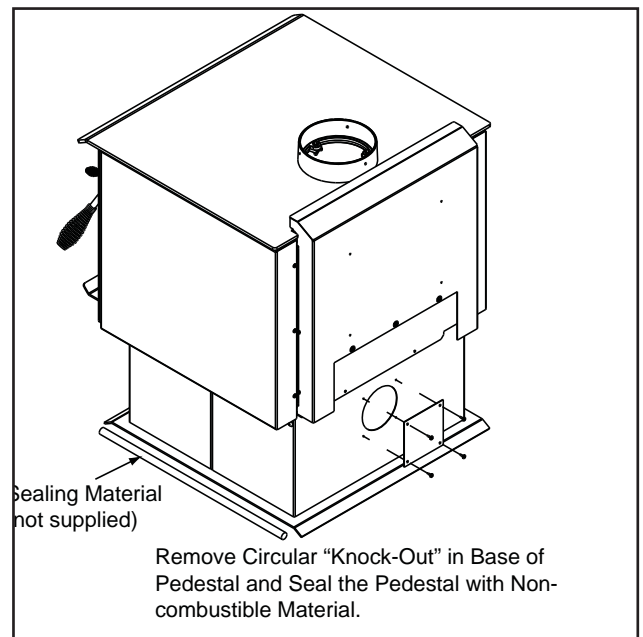

Figure 39.2 - Alternate Floor Installation
1. **Rear:** Remove the access cover on the back of the pedestal and discard. **Figure 39.2.**
If that is the case, follow the instructions for a rear installation install the flex pipe to the rear of the pedestal and remove the circular "Knock-Out" in the base of the the pedestal. You must seal off the pedestal with non-combustible material (not supplied). The goal is to seal the pedestal so no room air can leak into the pedestal and to seal for cold air infiltration. **Figure 39.2.**